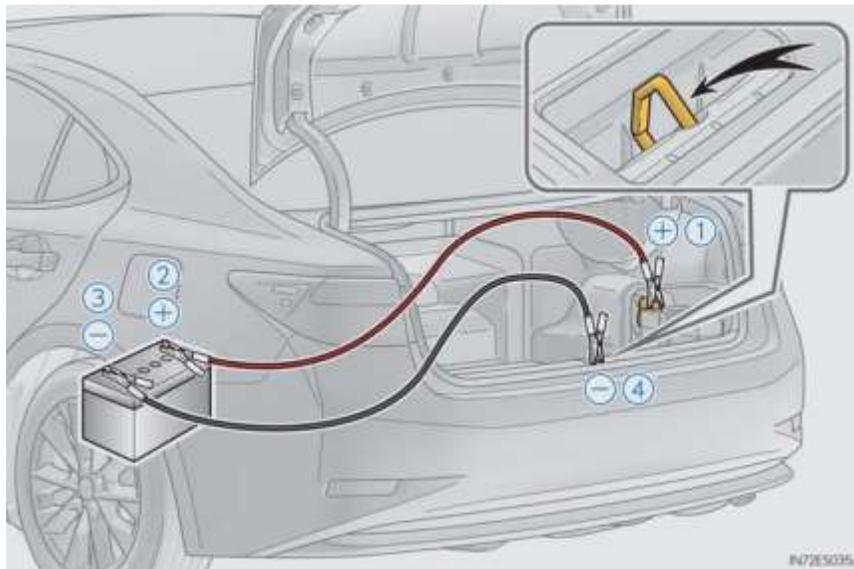

Figure 19
Connect cables to the designated locations and in the order shown in Figure 19 above. Disconnect cables in reverse order:
- Connect the clamp at the other end of the negative cable to a solid, stationary, unpainted metallic point away from the discharged battery such as the trunk latch striker, as shown (Figure 19).
- Connect the negative cable of the jump pack to a solid, stationary, unpainted metallic point away from the discharged battery such as the trunk latch striker, as shown (Figure 19).